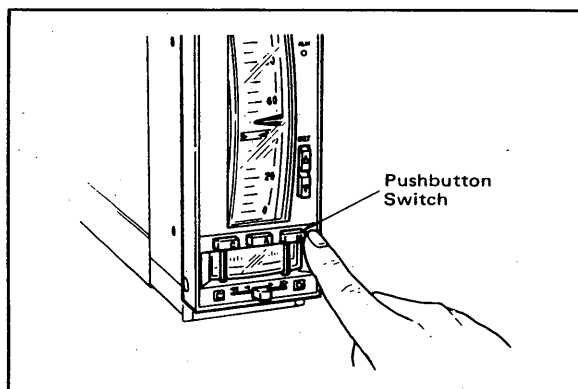

Figure 5-11. Selecting Manual Mode.
- (1) Manual operation with the manual operation lever
- a. Press the **[M]** mode transfer switch. (The built-in indicator lamp comes on.) (See Figure 5-11.)